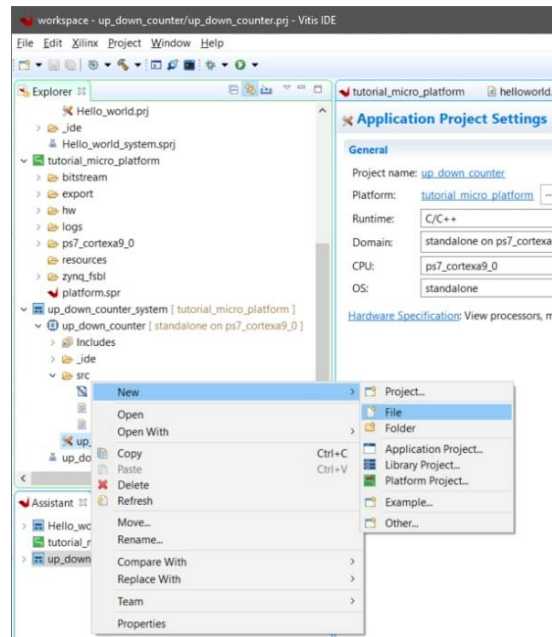

Figure 38
8. Right click on **src** → **New** and select **File** (Figure 38)